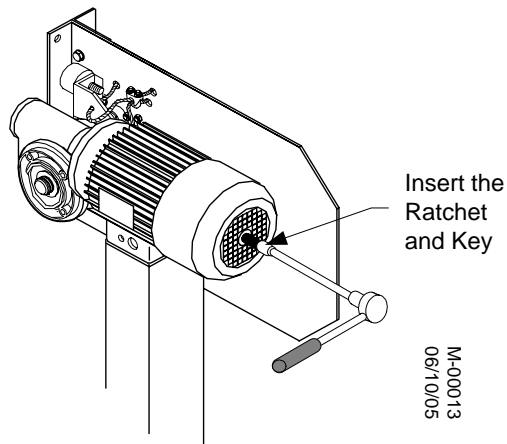

Figure 3-24: Curtain through Drive
2. Insert the ratchet and key into the drive motor fan opening. See Figure 3-24.